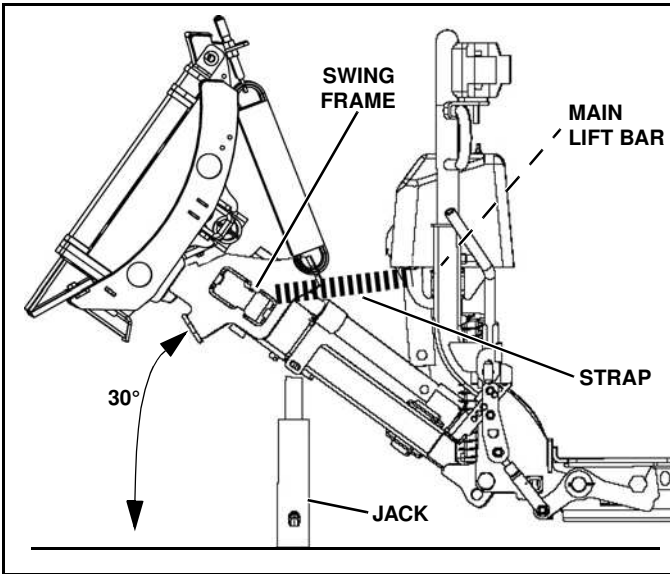

Figure 1-61
2. To lift plow, position jack under A-frame and angle up to a minimum of 30 degrees (or up to the lift stops). (See Figure 1-61).